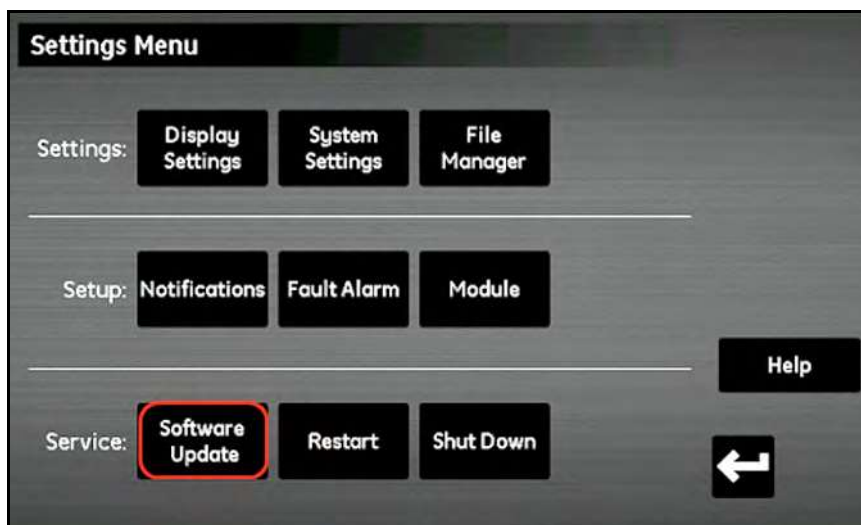

Figure 77: Software Update
5. In the **Service** section (see *Figure 77* below), tap the **Software Update** button. If the **Software Update** button is grayed out, check to ensure that the USB flash drive is properly plugged into the USB port.